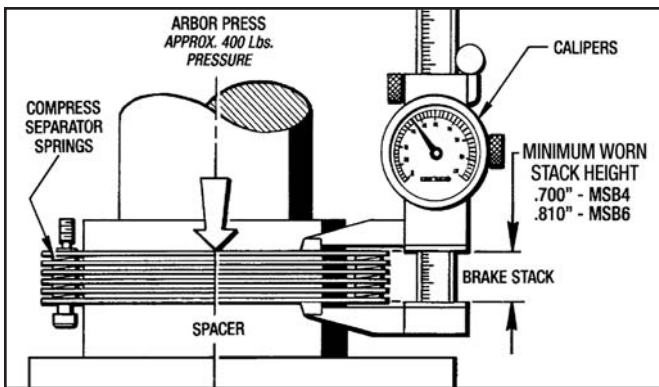

Figure 7.2 - Measuring Stack Height (MSB4 & MSB6)
The Stack Height must be measured to determine whether or not the Brake Stack needs to be replaced. If it measures under the Minimum Worn Stack Height then the Brake Stack needs to be replaced. (See Figure 7.2 on next page.)
6. Place the Brake Stack (#41) in an arbor press and measure the Stack Height to determine whether or not the Brake Stack (#41) needs replaced. (**See Section 7-4 and Figure 7.2**)